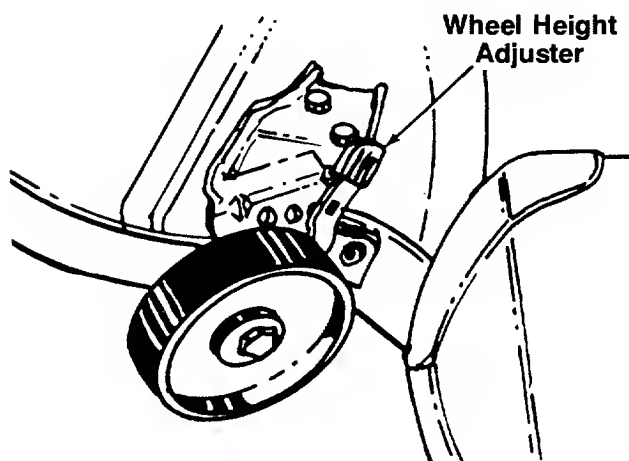

FIGURE 10.
34" (800) and 38" (801) Deck: Move the wheel height adjuster lever towards the wheel and set it in the desired height. See figure 10.